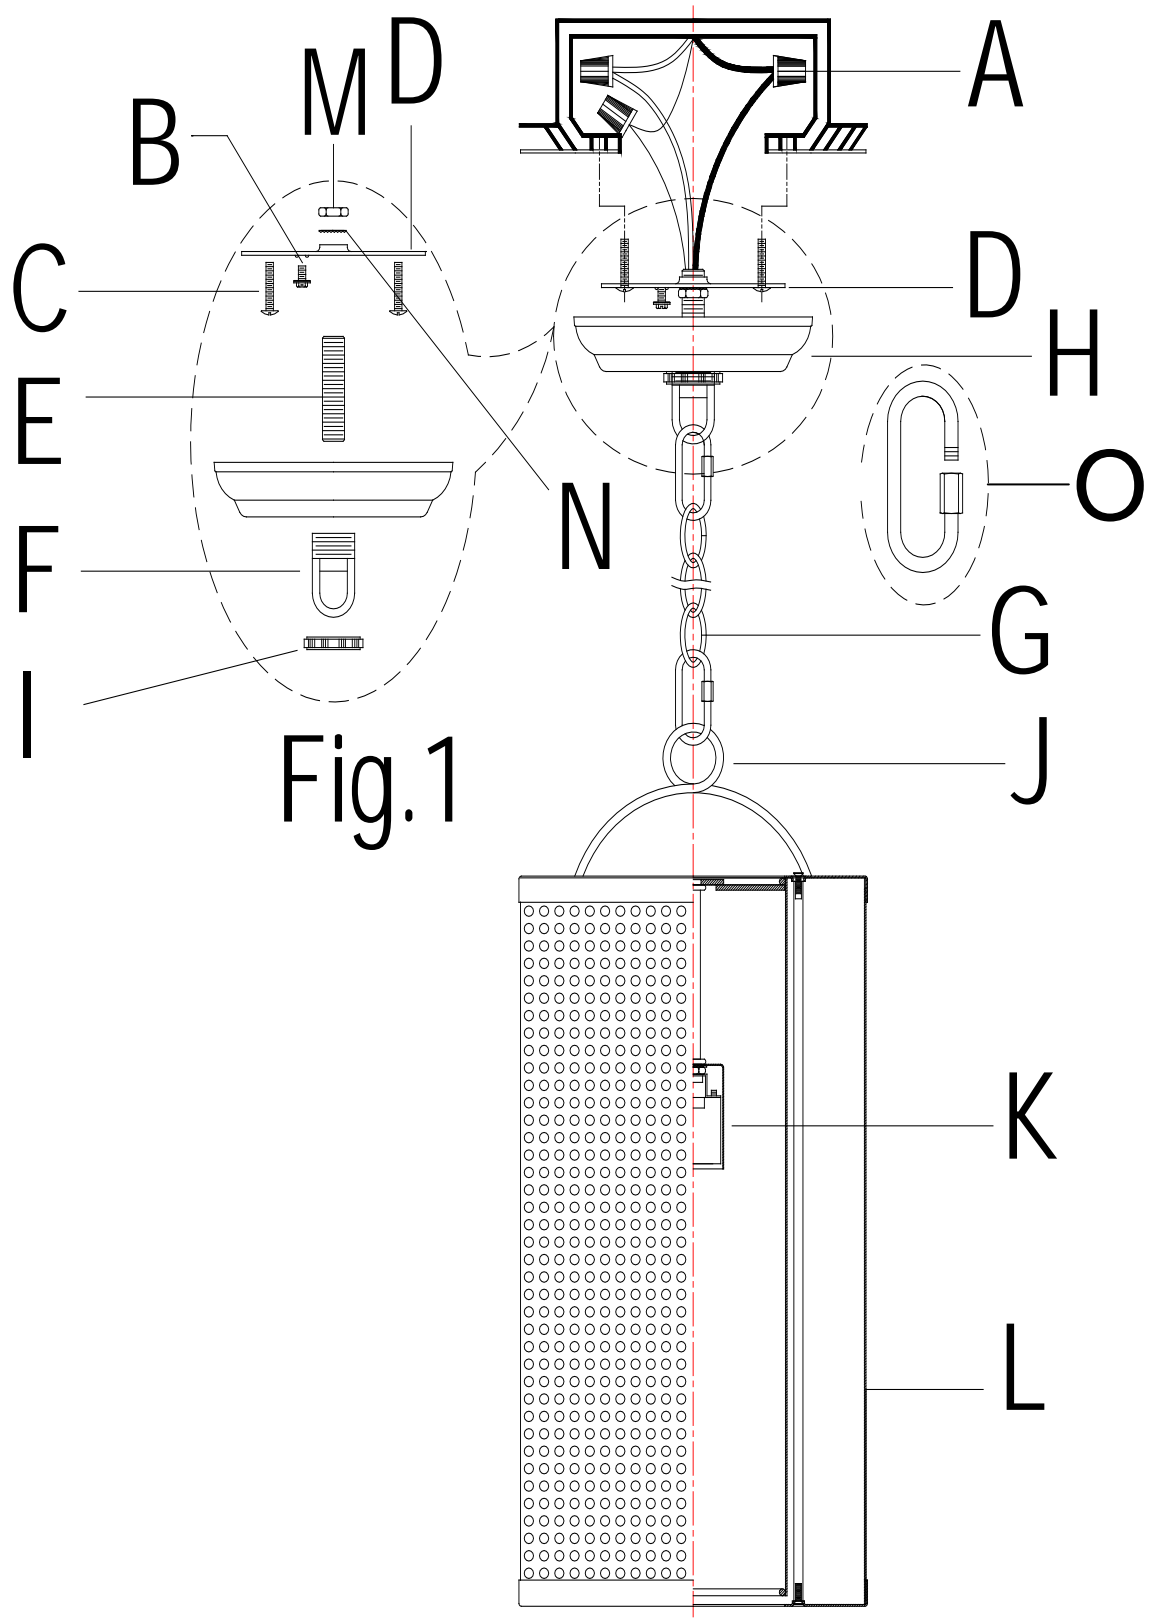

Fig.1
4. If not already separated, remove the Canopy Nut (I) and the Canopy (H) from the links of the Chain (G) and set them aside.
5. If the parts are not already preassembled, attach the Short Threaded Tube (E) into the threaded bore of the Hanging Loop (F) and rotate the Short Threaded Tube (E) clockwise until it is tightly engaged within the Hanging Loop (F). If the Short Threaded Tube (E) is not yet secured to the Mounting Plate (D), do so now so that a portion of the Short Threaded Tube (E) extends upward beyond the Mounting Plate (D).
6. Position the Lock Washer (N) first and then the Hex Nut (M) onto the extended upper portion of the Short Threaded Tube (E). Make sure the length of the Short Threaded Tube (E) is longer on the bottom end, as shown in Fig. 1. Tighten the Hex Nut (M) until tight using a hex wrench or a pair of pliers so that the Hanging Loop (F) is now firmly secured to the middle of the Mounting Plate (D).
7. Unscrew the Closable Link Screw Cap from the lower Closable Link with Screw Cap (O), and insert the bottom loop of Chain (G) and Fixture Loop (J) at the top of the Light Fixture (L) into the Closable Link with Screw Cap (O). Tighten the Closable Link Screw Cap as shown in Fig. 1.
8. Slip Canopy Nut (I) first and then Canopy (H) over the upper end of Chain (N) making sure the finished side of the Canopy (H) is facing downward towards the floor.
9. Unscrew the Closable Link Screw Cap from the upper Closable Link with Screw Cap (O), and insert the top loop of Chain (G) and Hanging Loop (F) into the Closable Link with Screw Cap (O). Tighten the Closable Link Screw Cap as shown in Fig. 1.
10. Lace the pendant's 3-wire power cord through alternating chain links from the pendant all the way up through the opening of the Canopy Nut (I) and the Canopy (H) to the Hanging Loop (F).
11. Feed the fixture wires through the bottom opening of Hanging Loop (F), and then through the hollow Short Threaded Tube (E).
12. If needed, (depending upon final fixture hanging position from the ceiling), cut off the extra power cord length on the 3 wire cord cable. Make sure when cutting the power cord to cut the cord so that it is at least 6 inches (152.4 mm) long within the outlet junction box (J-box). Prepare the cut power cord wires using the following steps. Carefully cut away about 3 inches of the outer protective sheath insulation of the three-wire cord cable to expose the three individually insulated wires. Use wire strippers to prepare the ends of the three wires so that there is about 1/2 inch of exposed wire for the Plastic Wire Nut Connectors (A).
14. Attach the GROUND WIRE from the fixture to the GROUND JUNCTION BOX WIRE from the ceiling outlet junction box (J-box) (usually green insulation or bare wire). Fasten each together with a Plastic Wire Nut Connector (A) by twisting the connector in a clockwise direction and wrap the connection with electrical tape. Be sure that no wire strands are exposed. If your outlet junction box DOES NOT have a GROUND WIRE, be sure to insert the Green Ground Screw (B) into the Mounting Plate (D) marked as "GND", facing downward and wrap the fixture's bare ground wire around the Green Ground Screw (B). Tighten screw to clamp ground wire between ground screw head and Mounting Plate (D). **IT IS IMPERATIVE THAT THE JUNCTION BOX IN YOUR HOME BE PROPERLY GROUNDED!**
15. Connect the NEUTRAL FIXTURE WIRE to the NEUTRAL JUNCTION BOX WIRE (usually white insulation). Fasten each together with a Plastic Wire Nut Connector (A) by twisting the connector in a clockwise direction and wrap the connection with electrical tape. Be sure that no wire strands are exposed.
16. Connect the HOT FIXTURE WIRE to the HOT JUNCTION BOX WIRE (usually black insulation). Fasten each together with a Plastic Wire Nut Connector (A) by twisting the connector in a clockwise direction and wrap the connection with electrical tape. Be sure that no wire strands are exposed. **DO NOT REVERSE THE HOT AND NEUTRAL CONNECTIONS OR SAFETY WILL BE COMPROMISED.**
18. With the help of another person to hold the weight of the pendant, attach the Mounting Plate (D) to the ceiling outlet box using the J-box Mounting Screws (C). Align the slots of the Mounting Plate (D) with the two threaded holes located on the J-Box. Use a screwdriver to tighten each screw with a screwdriver until the Mounting Plate (D) is firmly secured to the J-Box. The pendant can now be supported by the J-box.
19. Slide the Canopy (H) upward along the Chain (G) so that the central opening of the Canopy (H) is received by the threaded portion of the Hanging Loop (F). A section of the threads on Hanging Loop (F) should be exposed below the Canopy (H). The Hanging Loop (F) should be hanging below the Canopy (H) and the upper rim of the Canopy (H) should be pressing gently against the ceiling surface, covering the junction box. While holding the Canopy (H) firmly in place, position the Canopy Nut (I) against the Hanging Loop (F) and rotate the nut clockwise to engage it with the threaded portion of the Hanging Loop (F) until secure. Do not over tighten this nut. Finger tight should be sufficient to hold the Canopy (H) firmly in place.